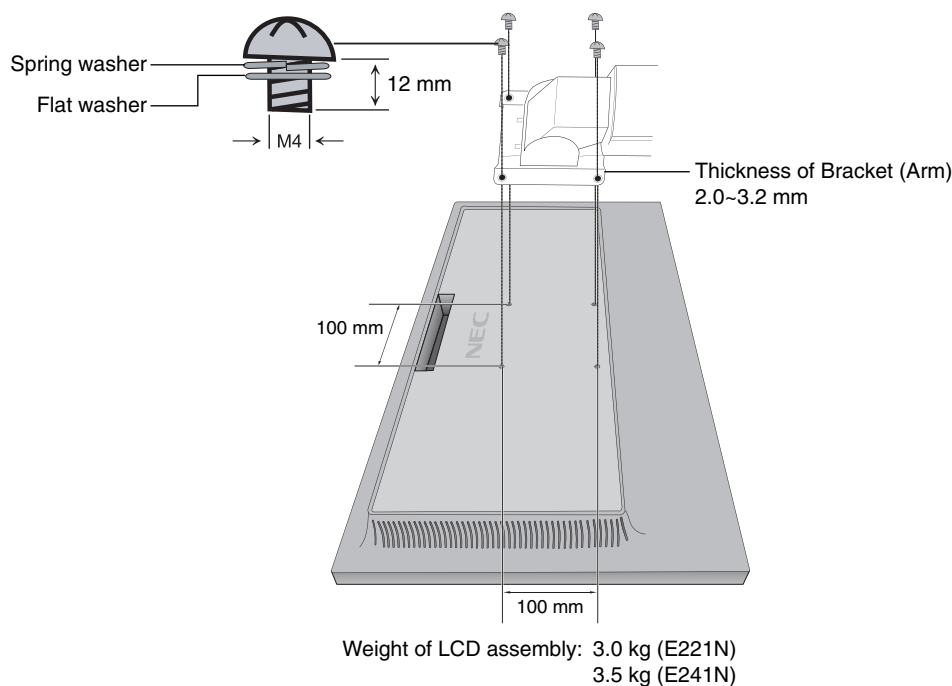

Figure F.1
2. Use the 4 screws removed from the stand or the specified screws (**Figure F.1**) to attach the arm to the monitor.
Caution: Use ONLY the screws (4 pcs) that were removed from the stand or the specified screws (**Figure F.1**) to avoid damage to the monitor or stand.